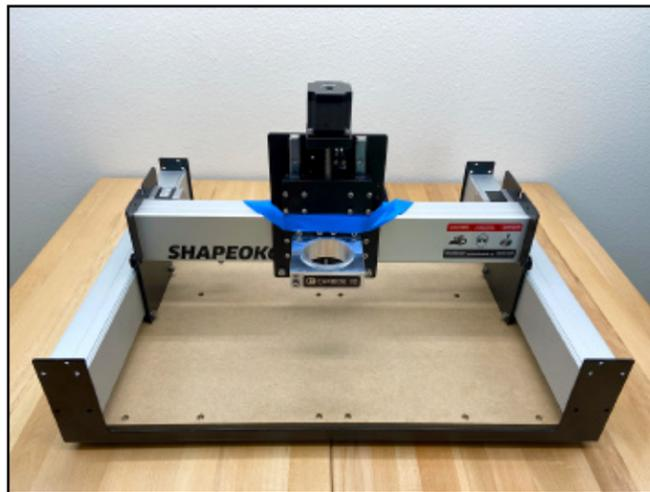

Figure 4-7
1. Lift the gantry and place it onto the baseframe with the Y1- and Y2-rails positioned between the front and rear endplates. Use caution, the gantry is top heavy and wants to rotate forward. See **Figure 4-7**.